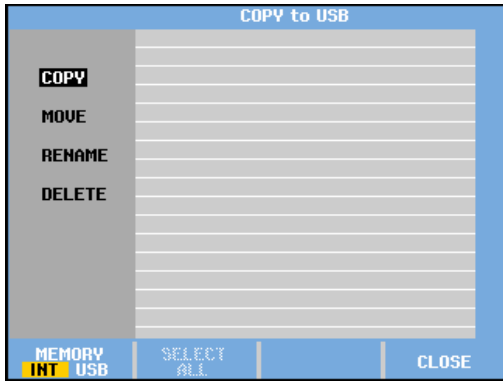

Figure 1.
- If you see a screen like figure 1 on page 2 no screens and setups are stored.